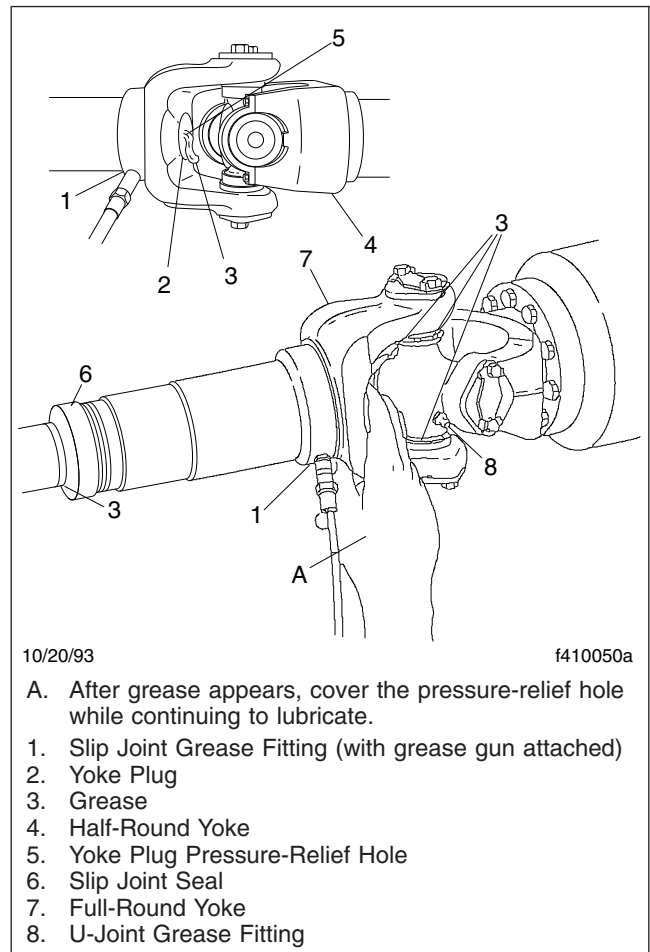

Fig. 5, Slip Joint and U-Joint Lubrication
9. For driveshafts with slip joints, check to be sure the yoke plug is not loose or missing. See Fig. 5, Ref. 2. Repair or replace the yoke plug as needed. If the yoke plug is missing, the splined shaft may be hitting the plug and knocking it out; contact your Regional Service Office for assistance in determining the correct driveshaft length.
2. Wipe all old grease and dirt from each U-joint grease fitting. See Fig. 5, Ref. 8.
1. If equipped with a grease fitting, wipe all old grease and dirt from the slip joint grease fitting. See **Fig. 5**, Ref. 1.
2. Use a hand-type grease gun or a high-pressure gun with a low-pressure adapter, to lubricate the slip joint. Add multipurpose chassis grease (lithium 12-hydroxy stearate, NLGI Grade 1 or Grade 2, with EP additives) until it appears at the pressure-relief hole in the yoke plug. Then cover the relief hole with your finger, while continuing to apply gun pressure until new grease appears at the slip joint seal. See **Fig. 5**. This ensures complete lubrication of the splines.